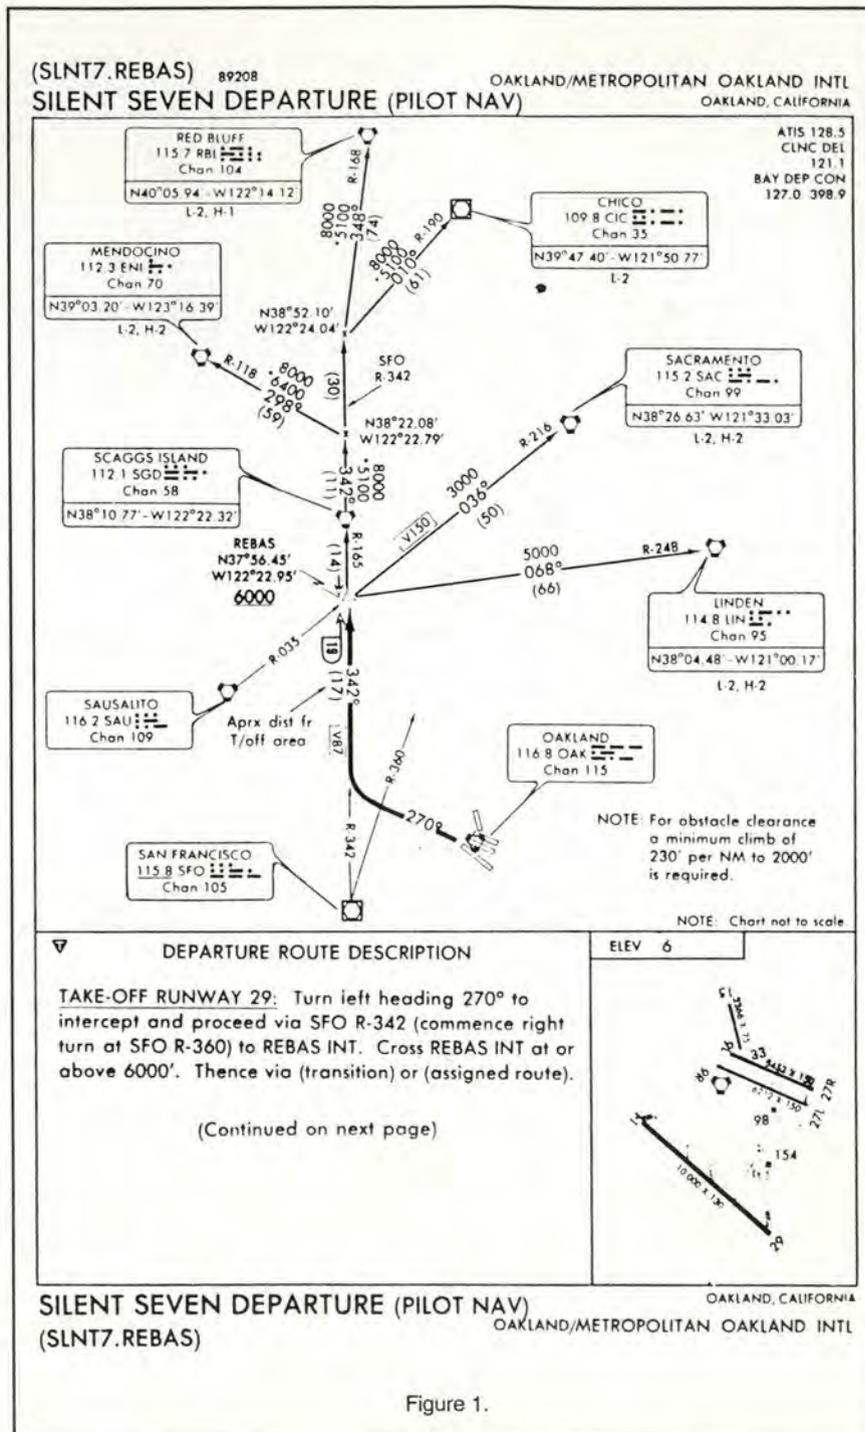

Figure 1.
**ANSWER:** No! Civil SIDs only depict obstacle climb gradients, and although they depict see-and-avoid weather minima to be used in lieu of the gradient, USAF aircraft must fly by AFR 60-16 which does not allow the use of see-and-avoid minima. ATC climb gradients are not depicted on a civil SID. You must calculate these on your own using the depicted altitudes and distances. Simply assuming the absence of a climb gradient means you must maintain 200 feet per nm could get you into trouble. For an example, take a look at the Silent Seven Departure out of Oakland, California (figure 1). The depicted obstacle climb gradient is 230 feet per nm to 2,000 feet. However, the climb gradient to 6,000 feet is 352 feet per nm (based on 6,000 feet in 17 nm).